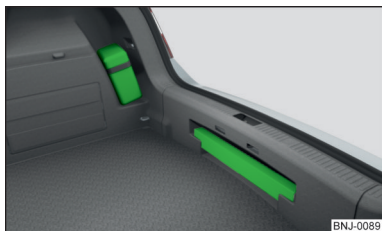
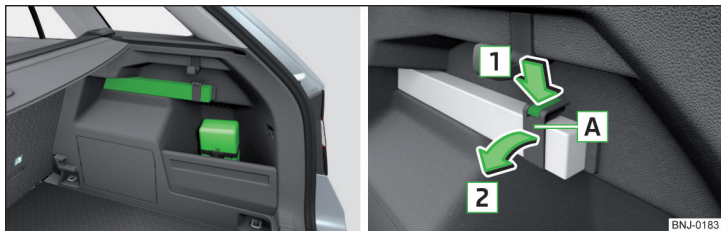

Fig. 266
Fig. 267 Placing the first aid kit and the warning triangle - variant 2 /
The first-aid kit can be attached to the right-hand side of the boot using a strap » Fig. 266 or » Fig. 267.
The warning triangle can be stored in the recess under the loading edge » Fig. 266.
The first-aid kit can be attached to the right-hand side of the boot using a strap » Fig. 267.
- » To **release**, press the clasp on the strap in the direction of arrow **1** and fold open the strap **A** in the direction of arrow **2** » Fig. 267.